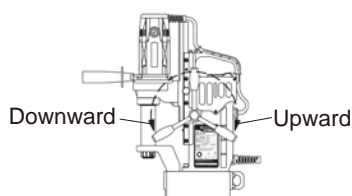

Fig. 10
- (1) Bring the Drill Motor up by turning the Rod Handle clockwise. (Fig. 10)